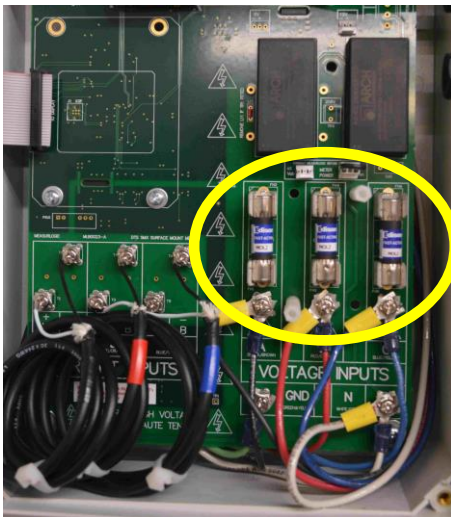

Figure 4.1a
- Remove the plastic safety cover from the fuses by unscrewing the plastic nuts located in figure 4.1a